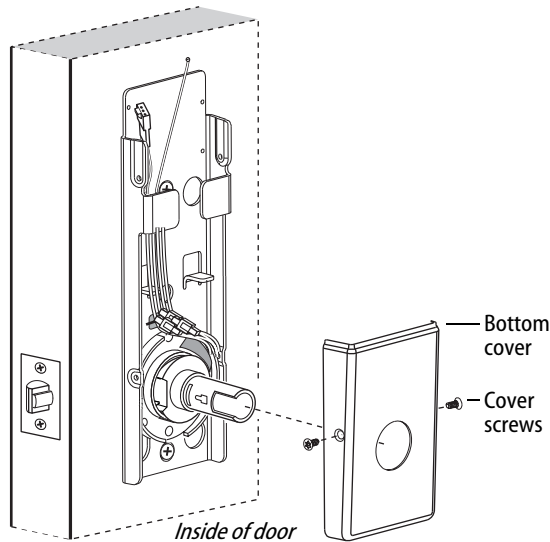

Figure 16 Installing the bottom cover
- 2 Use two cover screws to secure the cover to the side of the fire plate, as shown in Figure 16.